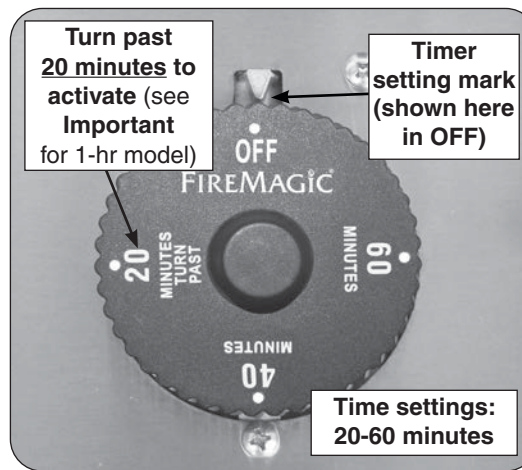

Fig. 2-3 1-Hour timer operation
**Important:** When using the timer for periods of less than twenty minutes, you must first turn the dial past 20 minutes (to activate), then return (counter-clockwise) to the desired amount of time. This will ensure proper timer operation. See Fig. 2-3.